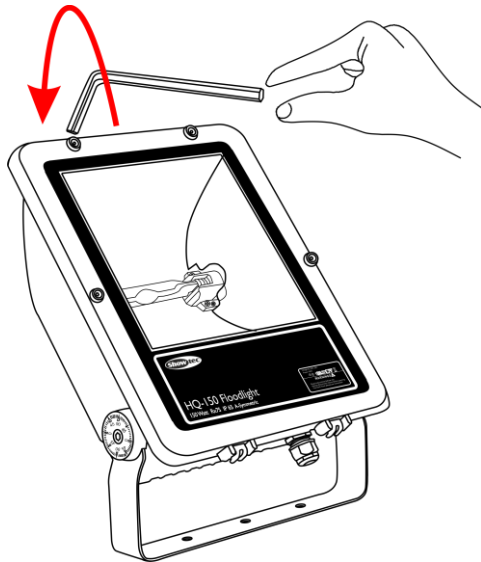

Fig. 02
- 02) Loosen the screws with the included hex key counterclockwise (Fig. 02).